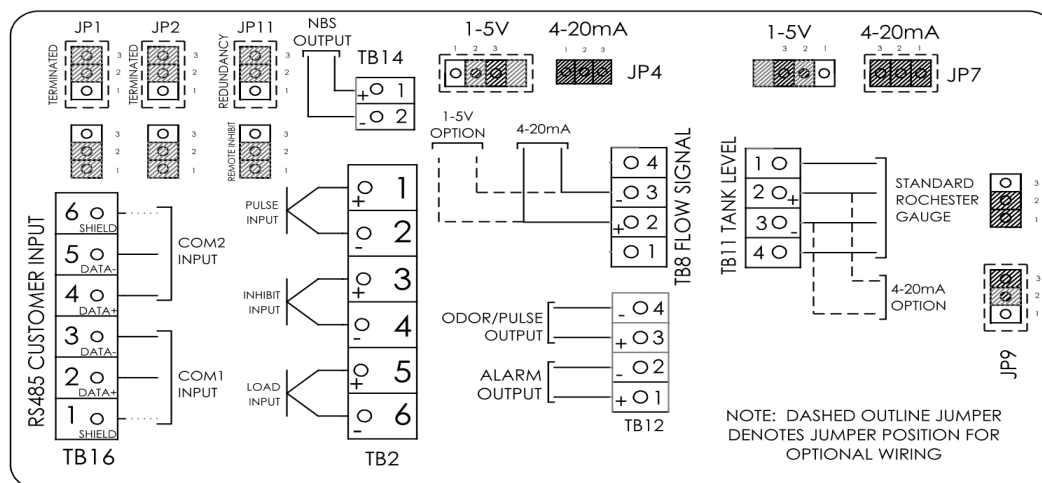
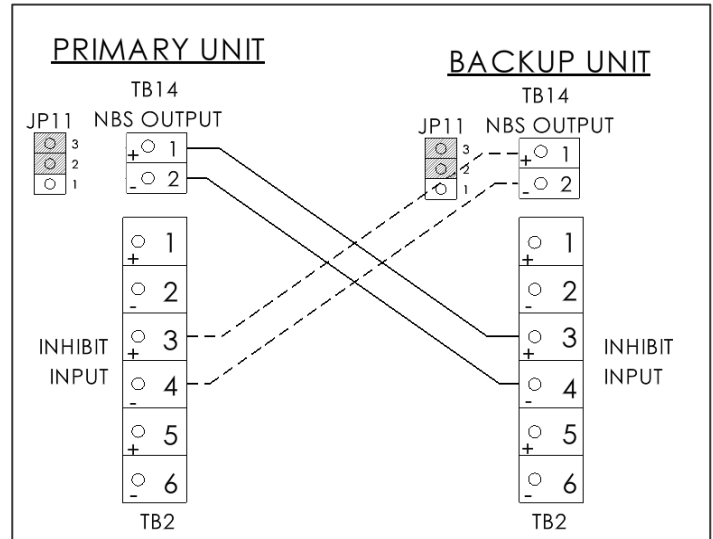

Figure 11 N-400 Controller Wiring Diagram Label
Figure 12 Redundancy Wiring
2. Connect the analog flow signal device to the termination block (TB8) located in the N-400 Controller OR the pulsed flow input to the termination block (TB2). Note the jumper placement (JP4) for each analog flow signal type and adjust if necessary. If using a pulsed flow input, the jumper position (JP4) is inconsequential. Refer to the *N-400 Wiring Control Document in Appendix B* and the Wiring Diagram reference label located inside the N-400 Controller Door or below in *Figure 11*.
3. If used, connect the optional Remote Inhibit Input signal to the termination block (TB2) (labeled inhibit input) located in the N-400 Controller. Refer to the *N-400 Wiring Control Document in Appendix B* and the Wiring Diagram reference label located inside the N-400 Controller Door or below in *Figure 11*.
4. If used, connect the RS-485 communication wiring as required to the termination block (TB16) located in the N-400 Controller. Refer to the *N-400 Wiring Control Document in Appendix B* and the Wiring Diagram reference label located inside the N-400 Controller Door or below in *Figure 11*.
6. If wiring two cabinets for redundancy, connect the NBS output termination block (TB14) of the primary system to the Inhibit Input of the backup system (TB2 Pins 3 and 4) located in the N-400 Controller. Mirror the connection from the backup to the primary system by connecting the NBS output termination block (TB14) of the backup system to the Inhibit Input of the primary system (TB2 Pins 3 and 4). Refer to the *N-400 Wiring Control Document in Appendix B*, the Wiring Diagram reference label located inside the N-400 Controller Door or below in Figure 11, and the Redundancy Wiring Diagram in Figure 12 if needed.